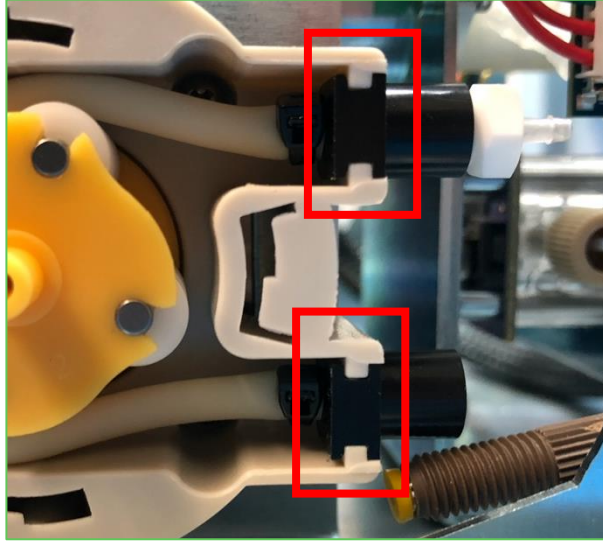

Figure 6
12. Starting on the top side of the Primary Pump, insert the connector of the end of the new tubing with the white barb fitting into the upper slot on the pump. (See Figure 6 for correct placement of upper side tubing) Slowly work the tubing in the pump, rotating the rollers as needed by hand. Once the tubing is in place, insert the connector of the other end of the tubing into the lower slot of the pump. (See Figure 6 for correct placement of lower tubing)
15. Using wire cutting pliers, cut the cable ties from both ends of the Wash Pump tubing. Be careful to avoid cutting the silicone tubing. (See Figure 6)